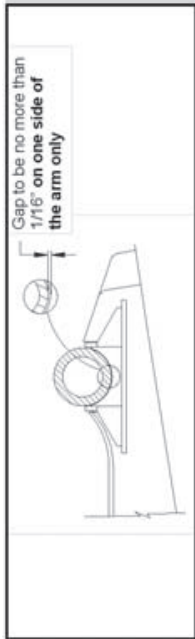

Figure 4
11. APPLY WELDS IN AREAS SHOWN IN FIGURE 4. THE ELECTRODE SHOULD BE BACKED UP TO FILL IN THE FILLET CRATER AT THE END OF EACH PASS.